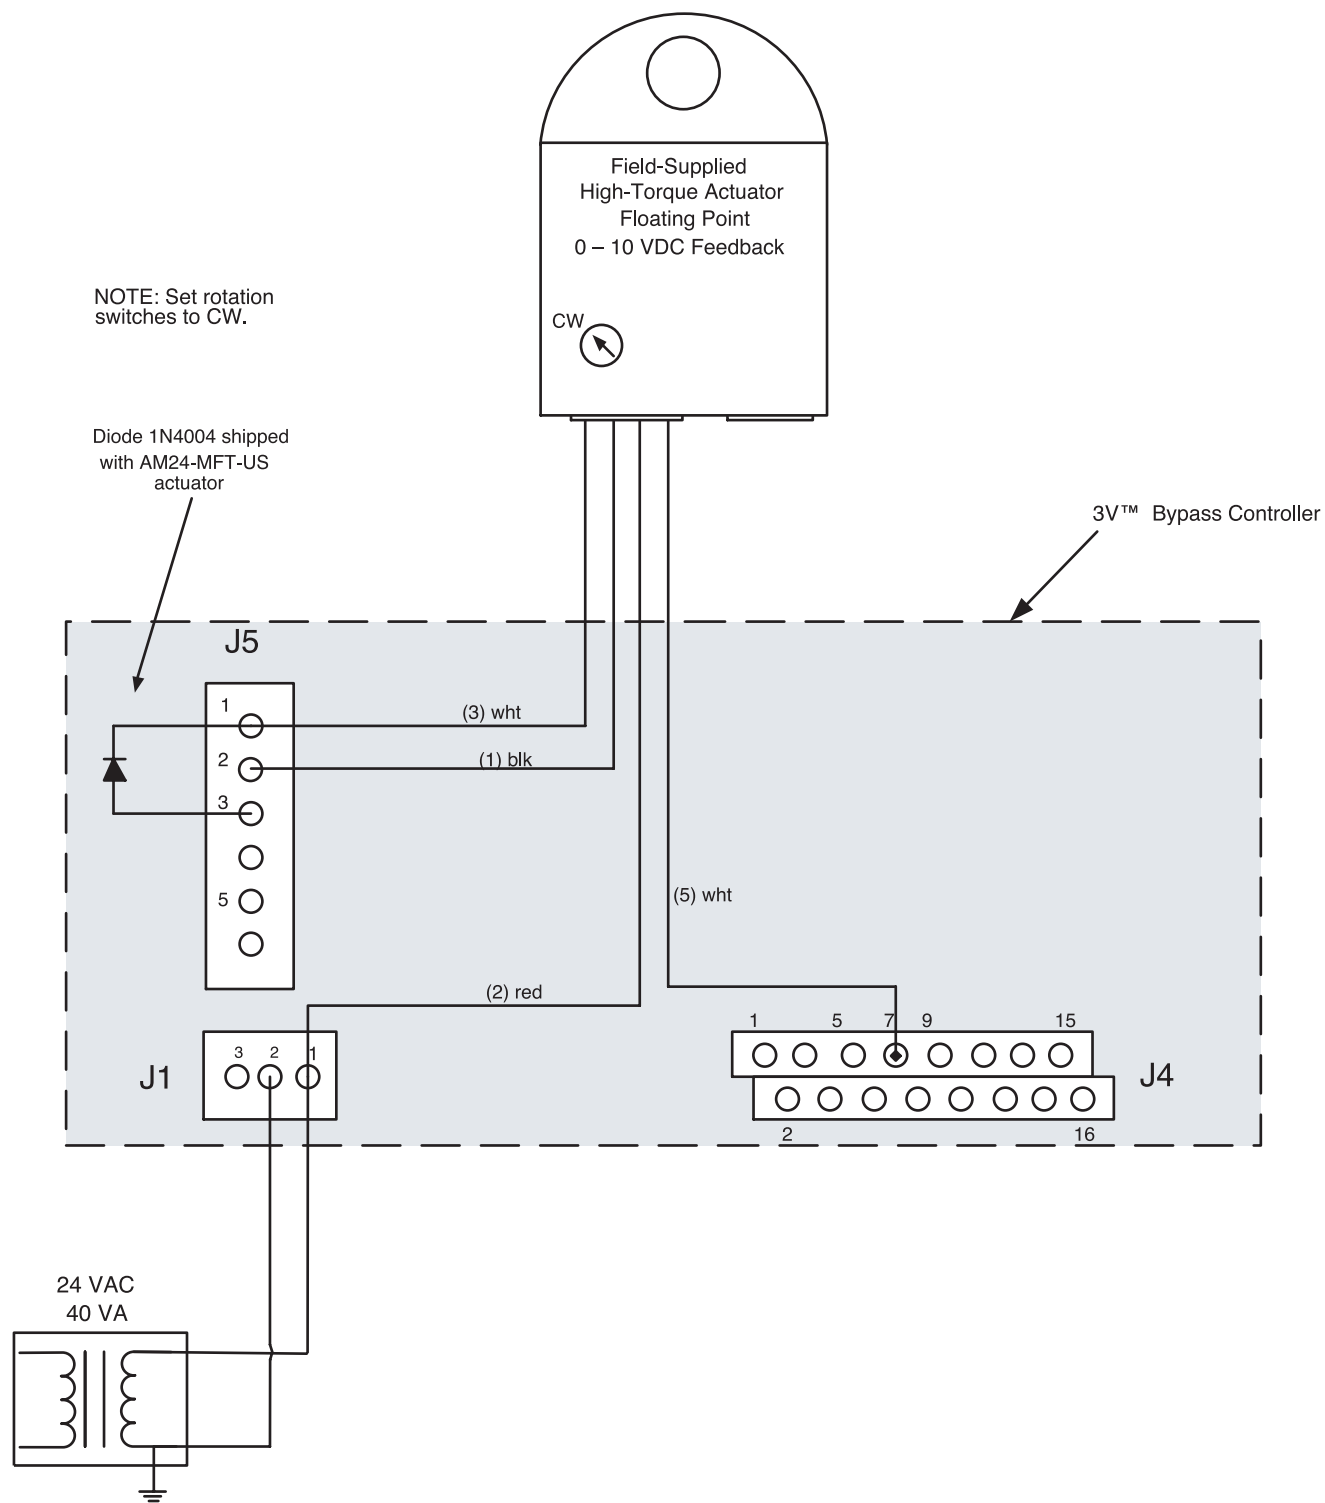

**Fig. 7 — High-Torque Actuator Wiring**
**FLOATING POINT HIGH-TORQUE ACTUATORS** — The field-supplied floating point high-torque actuators are multi-function technology actuators intended for applications where higher torque is needed for bypass operation. These actuators would replace the integrated actuator on the bypass controller. The actuators have three wires for power and control and one 0-10VDC feedback wire to send a signal to the bypass controller and any linked actuators. The three control wires are 1(BLK), 2(RED), and 3(WHT). The 1(BLK) and 2 (RED) wires provide power to the actuator. These should be wired to the same power source as the bypass controller making sure wire 2 (RED) connects to J1-1 on the power plug of the Bypass controller and wire 1 (BLK) connects to J5-2 the common of the Bypass Controller power. See Fig. 7 and 8 for wiring.